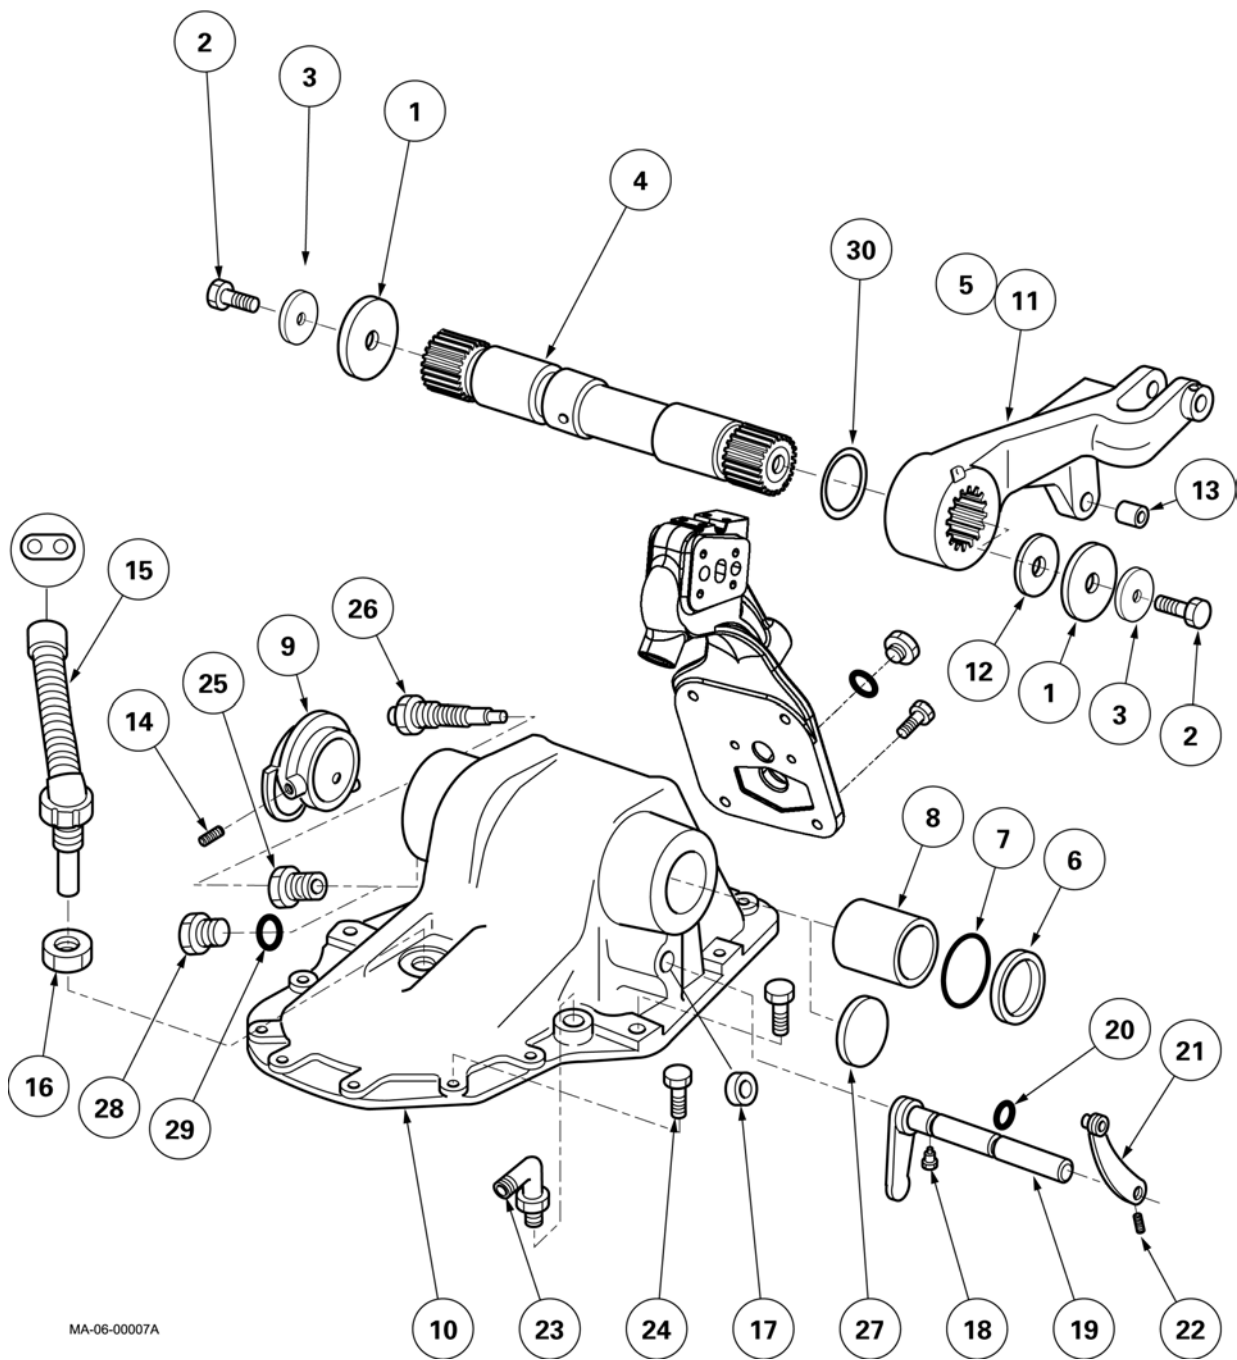

Fig. 2
2. Disconnect (Fig. 1 and Fig. 2)
- the ground speed sensor harness (15),
- the position sensor harness (26),
6. Remove the attachment screws (24) from the lift cover (10).